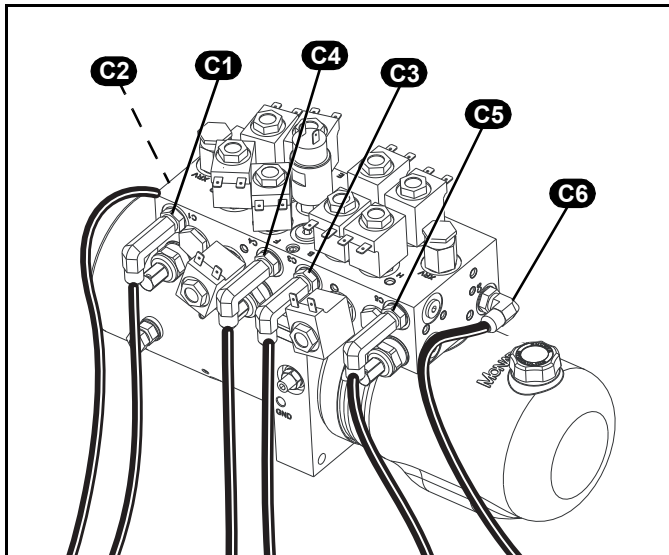
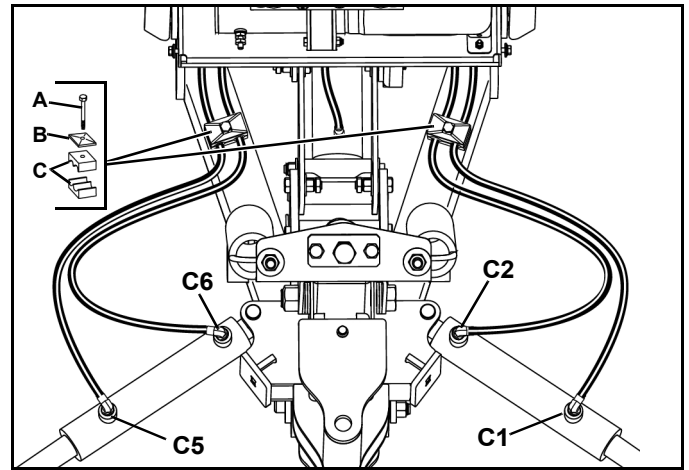

Figure 1-9-View From Rear of Control Valve
Figure 1-10
14. Loosely connect hydraulic hoses to the wing cylinders (See Figure 1-9 and Figure 1-10).
NOTE: C1 through C6 references are hydraulic ports on the control valve that are marked accordingly. (See Figure 1-9 and Figure 1-10.)